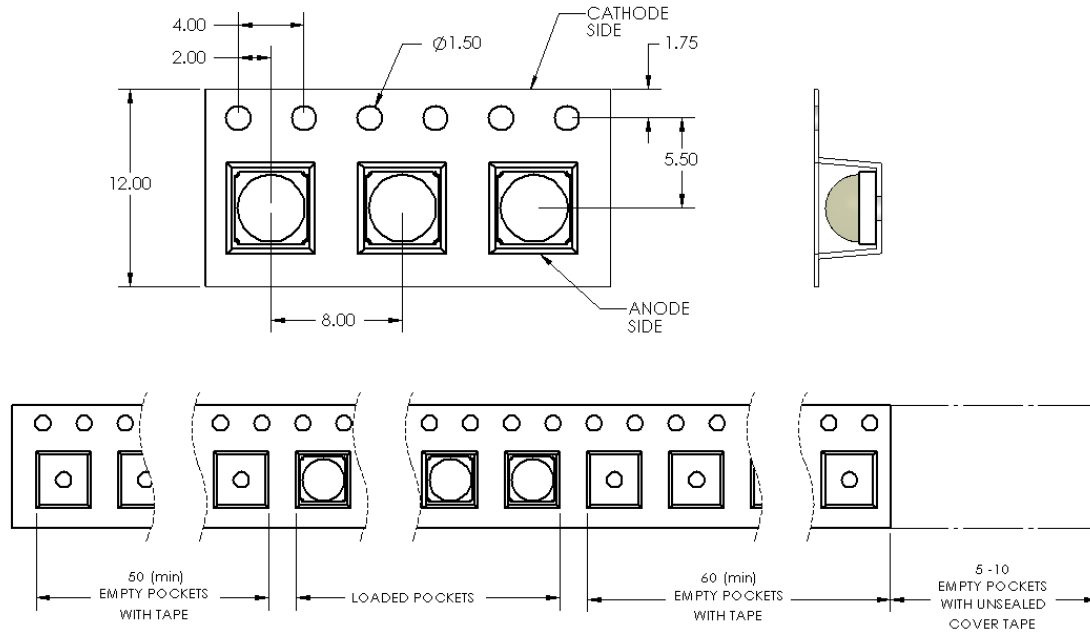

Figure 10: Emitter carrier tape specifications (mm).
- Maximum DC forward current is determined by the overall thermal resistance and ambient temperature. Follow the curves in Figure 10 for current derating.